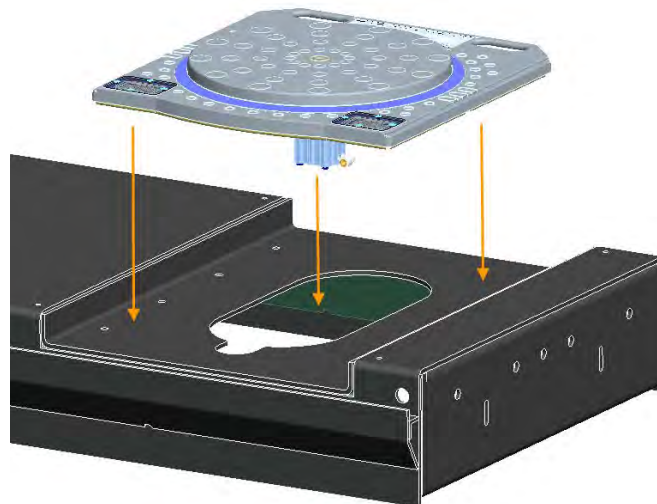

Figure 30 – Position Turnplates
4. Connect free ends of front air lines to the turnplate locking cylinder: blue air line to the cylinder port marked with a blue dot and red air line to the cylinder port marked with a red dot [Figure 30 shown below].